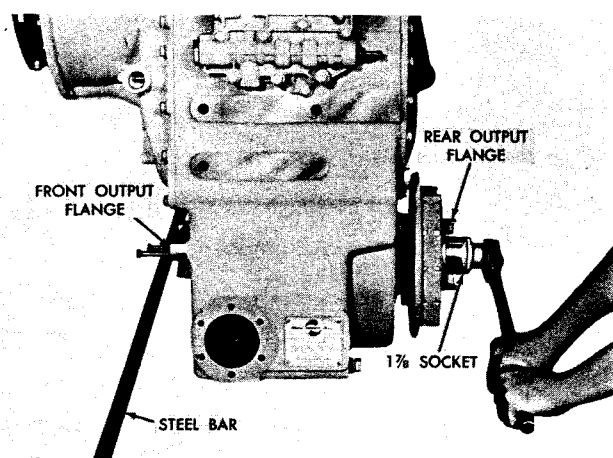
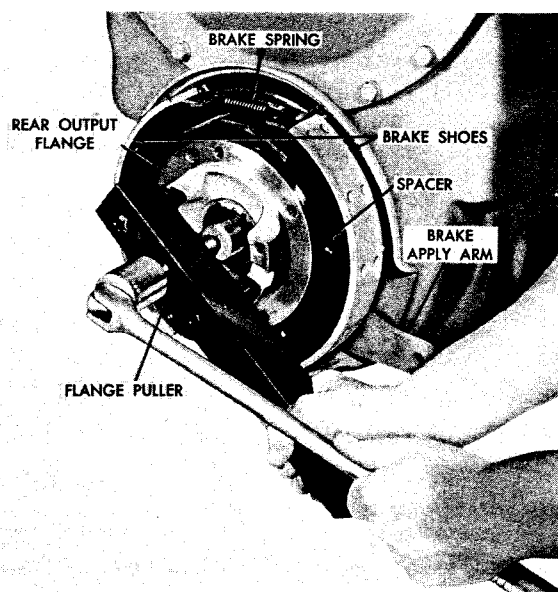

Fig. V-4. Removing rear output flange nut
Fig. V-5. Removing (or installing) rear output flange
(1) Using a 1 7/8-inch socket, remove the rear output flange nut and washer. To keep the flange from rotating, install two bolts into the front output flange and place one end of a bar between the bolts and rest the other end against the assembly table (fig. V-4).
(2) Remove front output flange nut and washer, using the same procedure.
(3) Using a flange puller, remove the front and rear output flanges (fig. V-5).
(1) Remove two springs, spacer, two brake shoes and brake apply arm (fig. V-5).